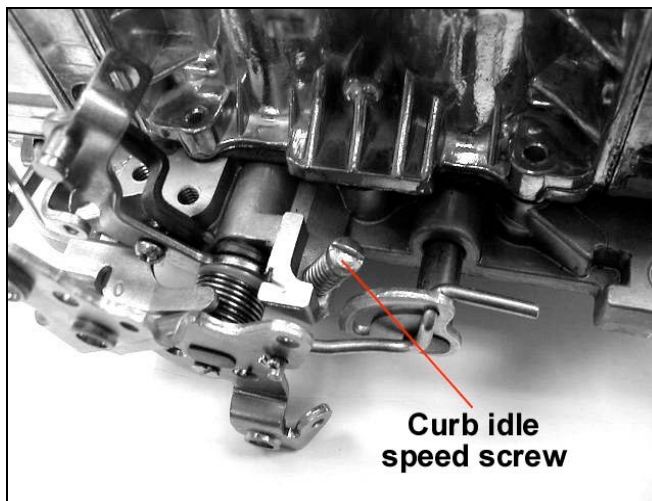

Figure 10
3. Now that the idle mixture is set, it may be necessary to go back and reset the idle speed using the curb idle speed screw, as shown in Figures 10.